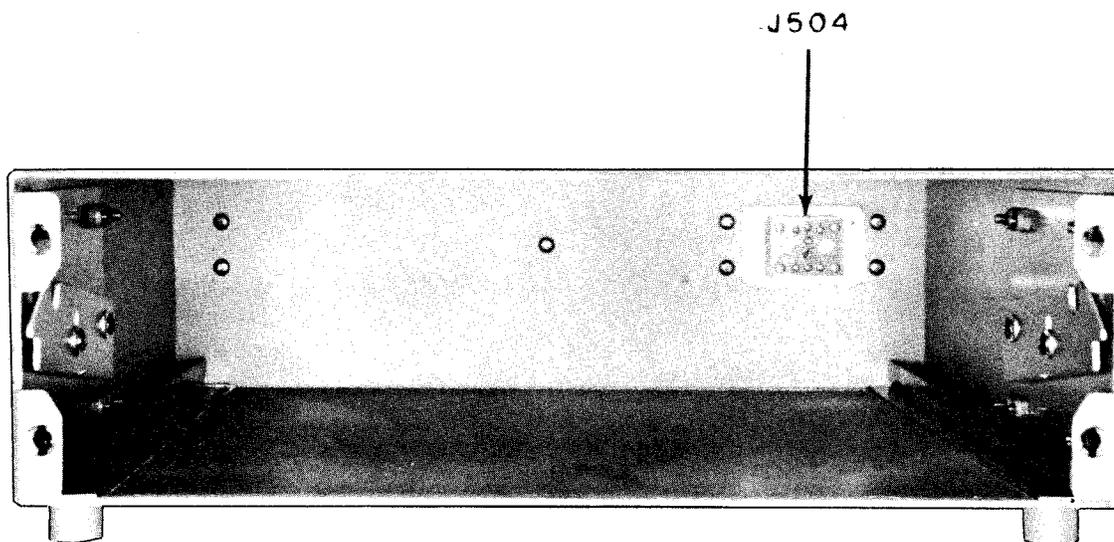

Figure 1-4. View into Cabinet, Inside Case Details
*a. CABINET.*—Figure 1-4 shows this unit. It is fabricated from aluminum alloy and finished in gray enamel. Guide rails located at the bottom of the cabinet facilitate removal and replacement of the receiver chassis assembly. When installed in a standard relay rack, the four mounting feet are removed and the two angle brackets are attached to the sides of the cabinet. Spring action side latches on each side of the case permit the receiver chassis to be withdrawn to a point where most of the top chassis components are accessible with the chassis still supported. When it is necessary to remove the chassis from the cabinet, the two latch levers are pressed down and the chassis is withdrawn (see figure 5-2). The receptacle connector (J504) which is visible at the right rear of the case interior is so located that, when the receiver chassis is inserted in the cabinet, the receptacle mates with a corresponding connector on the receiver Audio/Power Supply chassis.